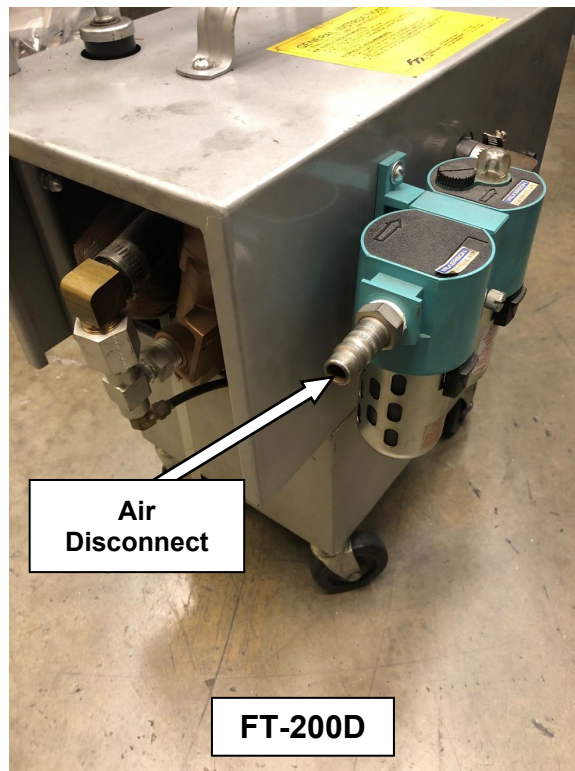

Figure 2.0-3
5. ⚠️ In the event of a ruptured or leaking hydraulic hose, IMMEDIATELY RELEASE THE TRIGGER AND DISCONNECT THE AIR LINE from the PowerPak at the air coupler (see Figure 2.0-3). **Never use your hands** to grasp a leaking hose under pressure. The force of escaping hydraulic fluid could cause serious injury. If hydraulic oil should penetrate the skin, medical attention must be sought immediately.